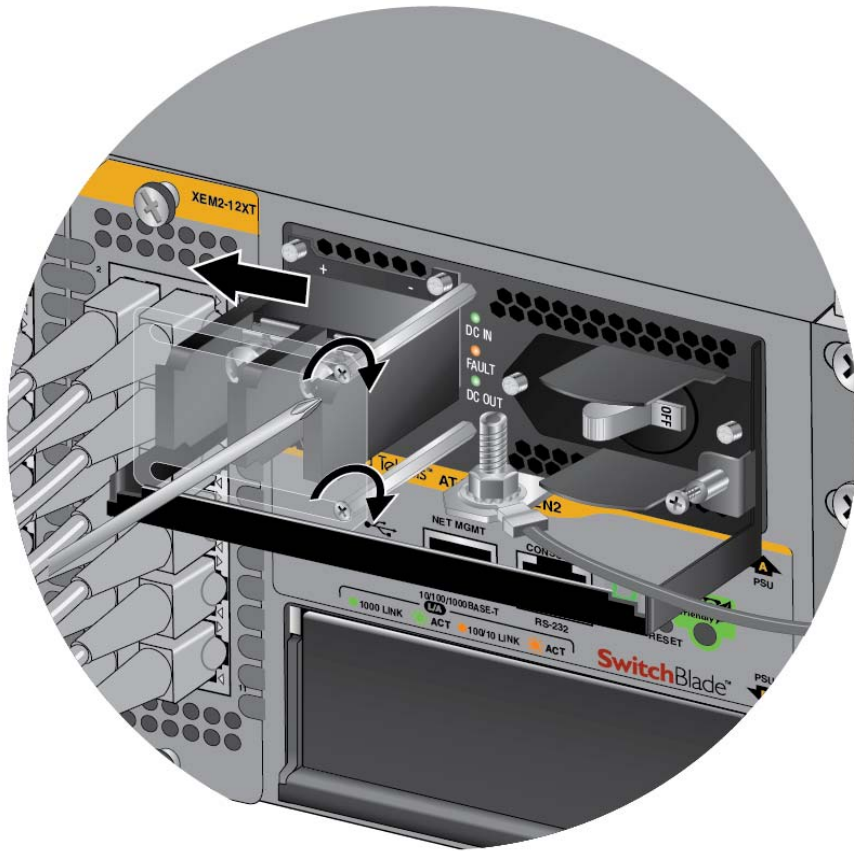

Figure 112. Closing the Plastic Cover
8. Slide the plastic cover to the left and lightly tighten the two screws to secure it in place. Refer to Figure 112 on page 154.